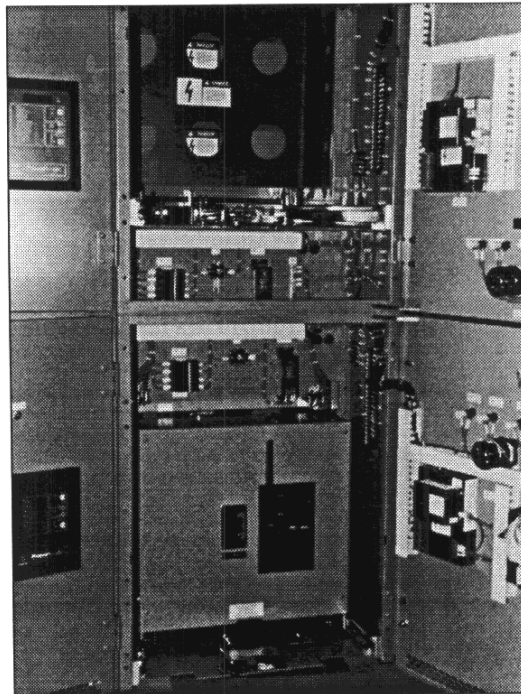

Figure 13: Type VR circuit breaker in test position
1. Roll the circuit breaker into the test position of the cell (figure 13). Do not rack the circuit breaker into the cell.